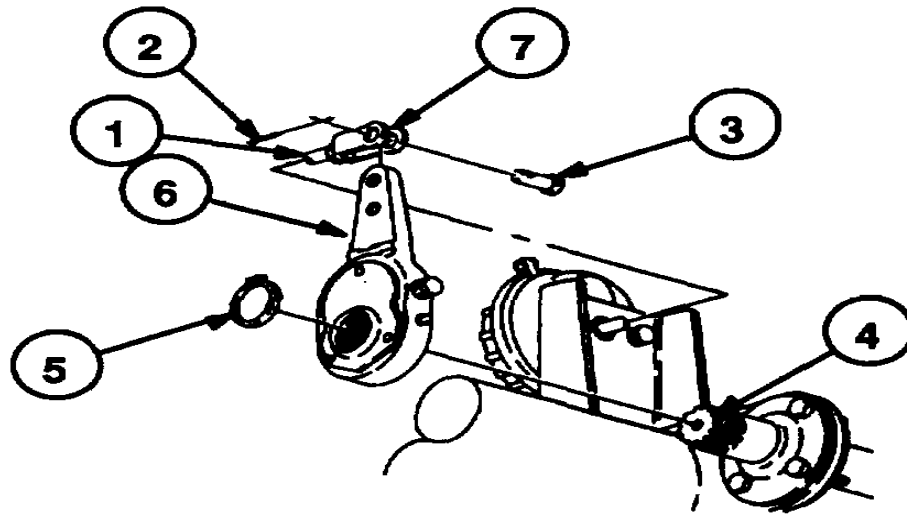

Figure 34.
- (1) Refer to Figure 34.
- (a) Loosen clevis jam nut (1).
- (b) Remove cotter pin (2), clevis pin (3), retainer ring (5), and slack adjuster (6) from camshaft (4). Clean and dispose of cotter pin, clevis pin, and slack adjuster as described in paragraph 8d. Clean and set aside retaining ring for reuse.
- (c) Remove the brake chamber clevis rod end (7) and dispose of in accordance with paragraph 8d.